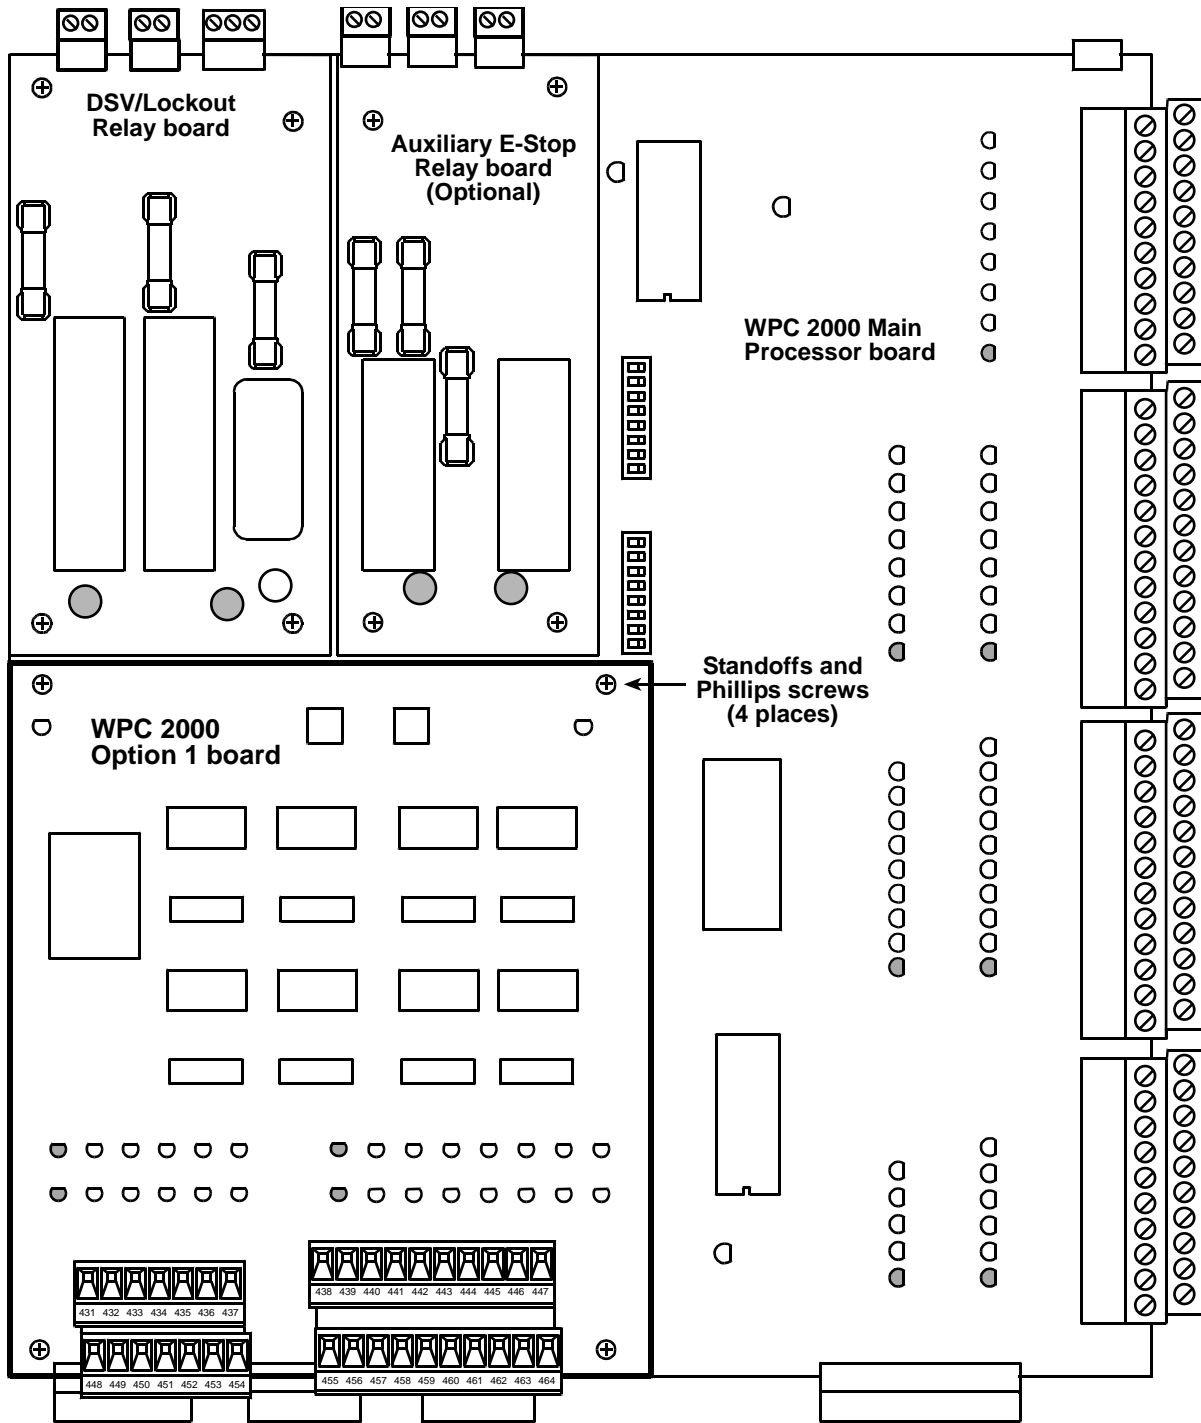

Figure 1. WPC 2000 Option 1 Board Installed on WPC 2000 Main Processor Board
To install the WPC 2000 Option 1 board (see Figure 1, next page) perform the following steps:
6. Making sure you are grounded, align the holes in the four corners of the Option 1 board with the four standoffs on the WPC 2000 Main Processor board (refer to Figure 1 for correct placement of board), and slowly push the board down until both connectors are seated. Then screw the board down, using the Phillips screws provided.